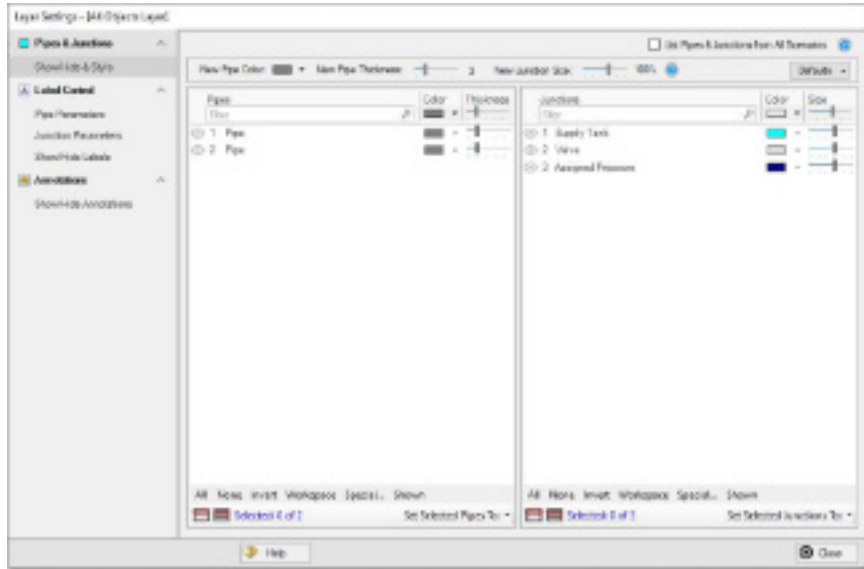

Figure 2.34 The Layer Settings window specifies content to be superimposed on the Workspace
- **Open the Layer Settings window for the All Objects Layer** by double-clicking the All Objects Layer, clicking the gear icon to the right of the layer name, or selecting the layer and clicking the single gear icon on the Layers Toolbar. The Layer Settings window is shown in Figure 2.34.